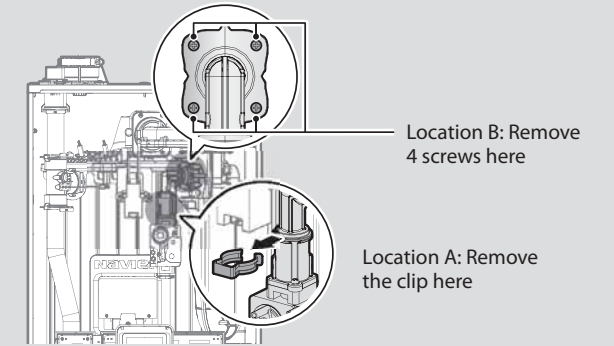

Figure 3. Detaching the Gas Valve Outlet Adapter from the Gas Valve and Fan Motor Assembly
5. Remove the clip at location A – the connection above the gas valve where it connects to the gas valve outlet adapter. See Figure 3 for reference.